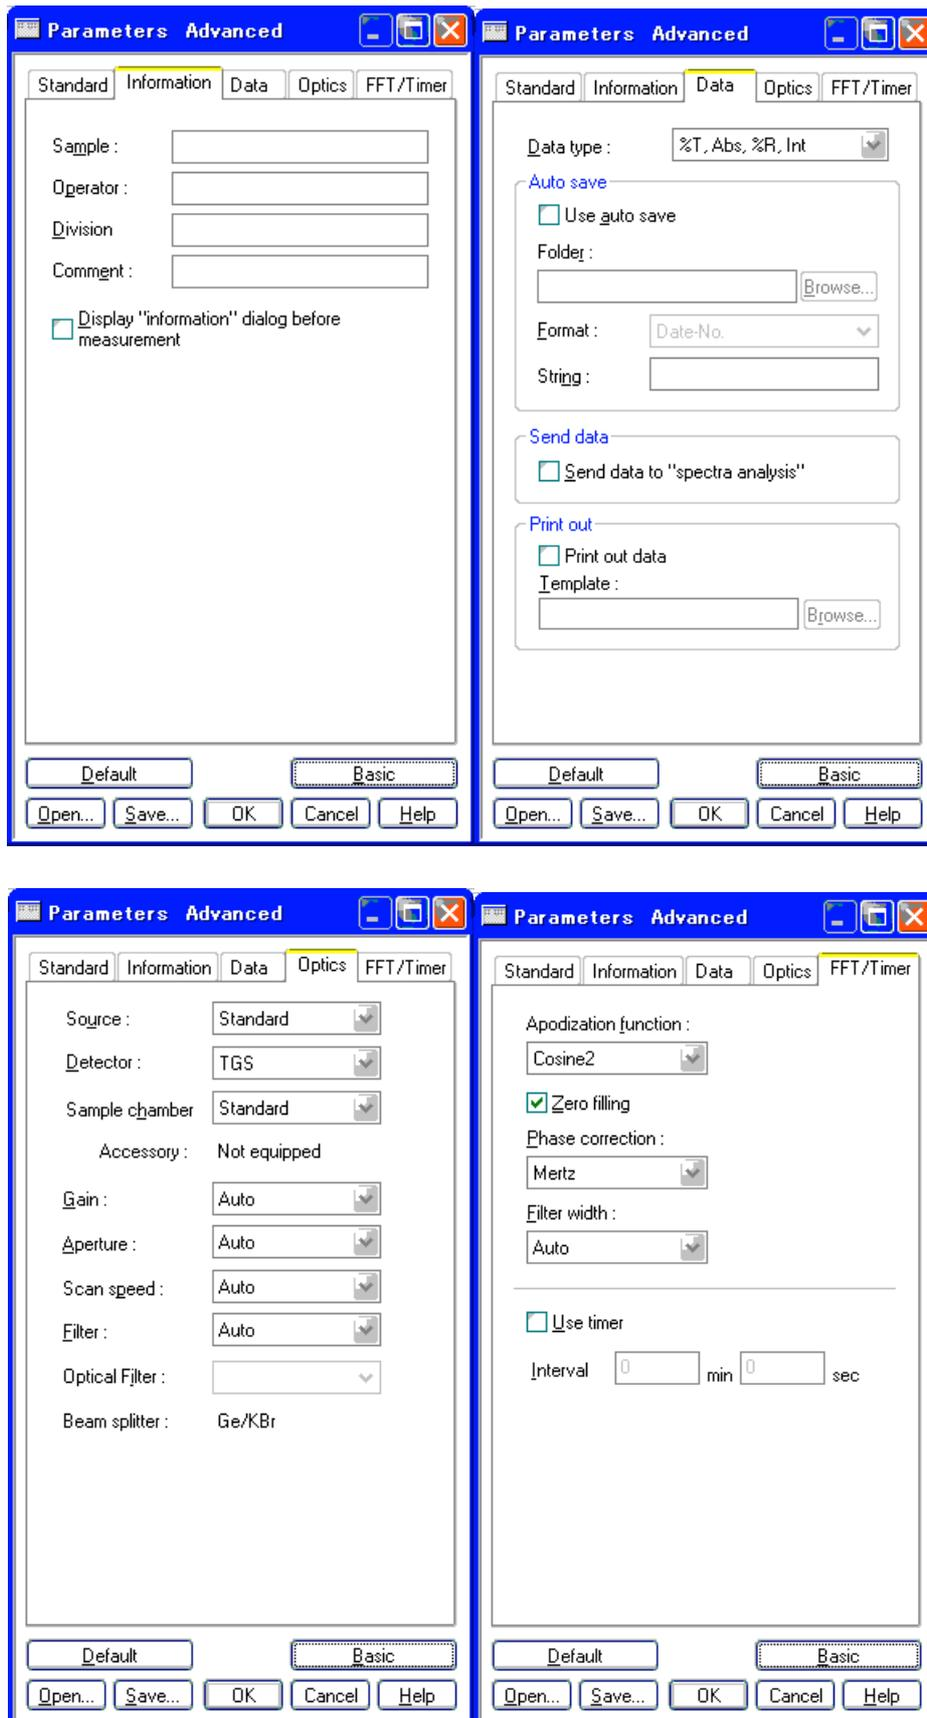

Fig.2.15 [Information], [Data], [Optics] and [FFT/Timer] tabs of [Parameters] dialog
(6) Select the [Information] tab (Fig. 2.15). Enter **Air** as the [Sample Name]. Change other settings as desired. The [Operator] and [Division] fields are input automatically for the current user. To input a [Comment], click on the comment field. If the [Information] fields are to be changed before every measurement, check the [Display “information” dialog before measurement] check box.